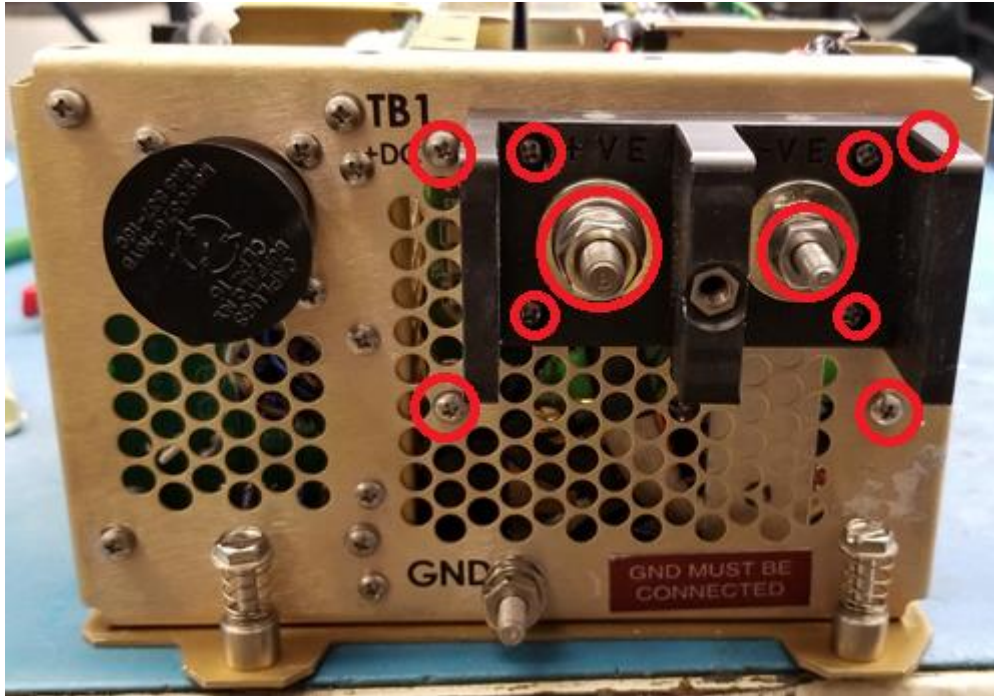

Figure 23
36. Reinstall (1) nut (35650-304), (1) nut (35650-3254), (1) washer (35338-138), (1) washer (35338-139), (1) washer (15795-808), and (1) washer (15795-809) to the studs of the terminal block. (Figure 23).
37. Reinstall (4) screws (51957-16) to the terminal block and (3) screws (51957-13), and (1) screw (24693-C2) to the front panel. (Figure 23).